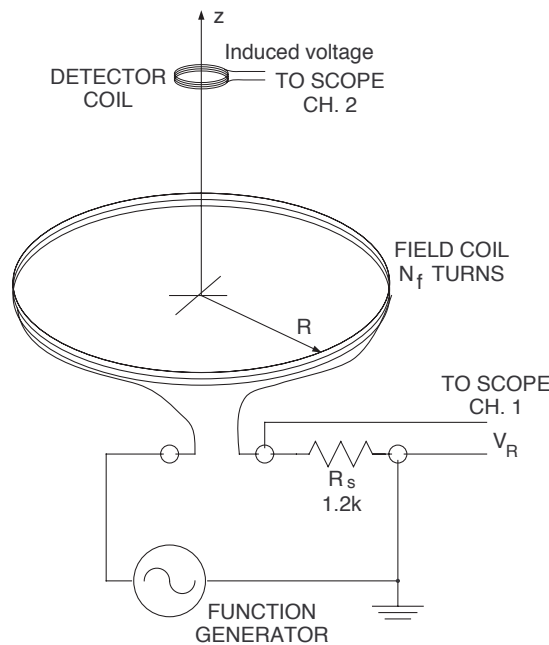

Figure 5
- A $1.20 \text{ k}\Omega$ resistor (R_s) is in series with the coil, built in to the coil apparatus, as shown in Figure 5. By measuring the voltage drop, V_R , across this resistor, the current can be found from Ohm's law: $I = V_R / R_s$. Calculate the corresponding voltage drop V_R that is required to have a $4.00 \mu\text{T}$ magnetic field.
B. Measuring the induced voltage. Connect the field coil, function generator and oscilloscope in the circuit shown in Figure 5. This is tricky to set up and you may need your lab instructor to help you. Set the function generator for a triangle wave with a frequency of $f = 1/T = 500$ Hz. Using the oscilloscope to monitor the voltage drop across V_R , adjust the function generator amplitude until V_R oscillates between \pm the calculated value (part A, #2) so that the “peak-to-peak” (from minimum to maximum) voltage is twice your calculated V_R . The magnetic field at the center of the coil is then oscillating between $\pm 4 \mu\text{T}$. Since $V_R \propto I \propto B$, the oscilloscope display of $V_R(t)$ is in phase with and directly proportional to the magnetic field, $B(t)$.